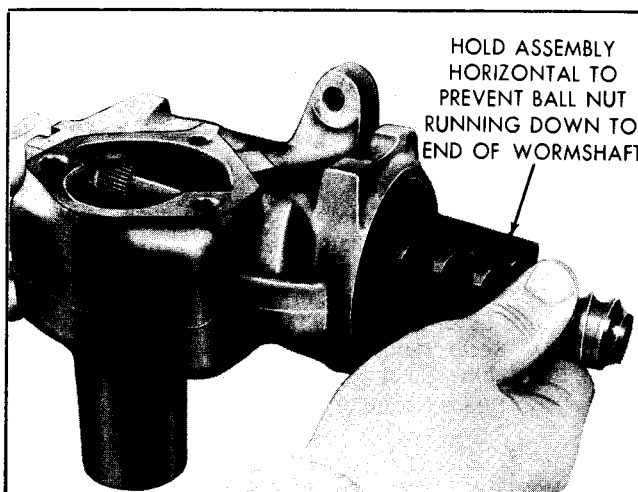

Fig. 9-70 Removing the Wormshaft and Ball Nut
8. Draw the wormshaft and ball nut assembly from housing (Fig. 9-70).